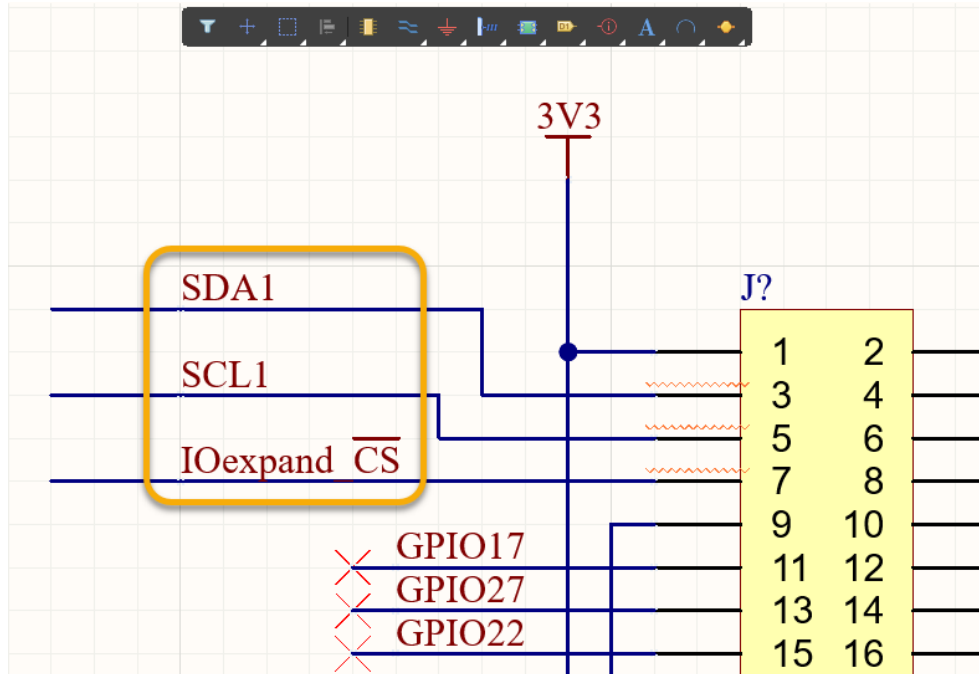

Figure 22. Net Label Placement
19. Continue to place the remaining *Net Labels* using Figure 22 as reference. Notice the numeric values will automatically increment if the *Name* is the same. The properties of a *Net Label* can always be changed by hitting the **TAB** key during placement, or by selecting the *Net Label* and changing its name manually in the *Properties* panel.